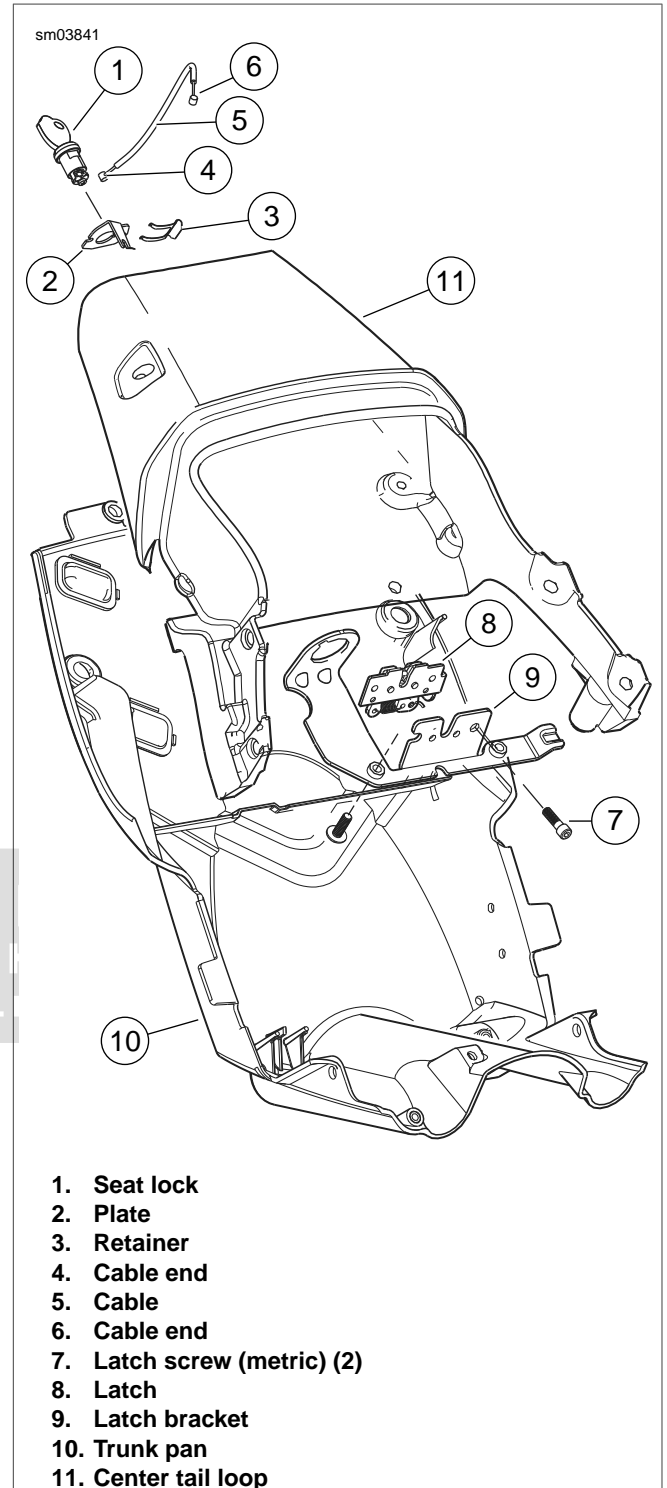

Figure 2-201. Seat Lock Assembly: Ulysses
3. See Figure 2-201. Disconnect seat lock cable (5):
- a. Remove latch (8) from latch bracket (9) by removing two fasteners (7).
- b. Remove cable end (6) and cable (5) from latch (8).
- b. Remove seat lock retainer (3) from seat lock (1).
- c. Remove seat lock (1) from plate (2) and license plate bracket.
1. See Figure 2-201. Install cable (5) into plate (2).
2. Install the seat lock (1) into license plate bracket and plate (2).